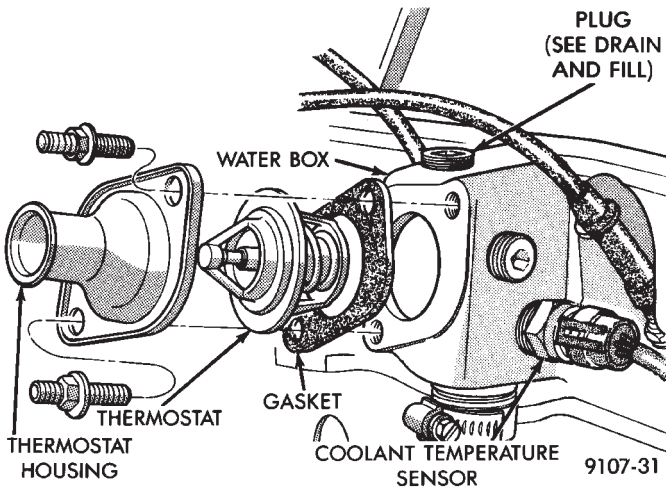

Fig. 8 Thermostat, Housing, and Water Box—2.5L Engine
The 2.5L engine thermostat is located on the front of the engine (radiator side) in the waterbox that is part of the cylinder head construction (Fig. 8).
- (1) Drain cooling system down below the thermostat level. Refer to Draining Cooling System in this group.
- (2) Remove thermostat housing bolts and housing (Figs. 8, 9 and 10).
- (3) Remove thermostat, discard gasket and clean both gasket sealing surfaces.
housing to water box (Fig. 8). Tighten bolts to 28 N•m (250 in. lbs.). Refill cooling system (see **Refilling System**).